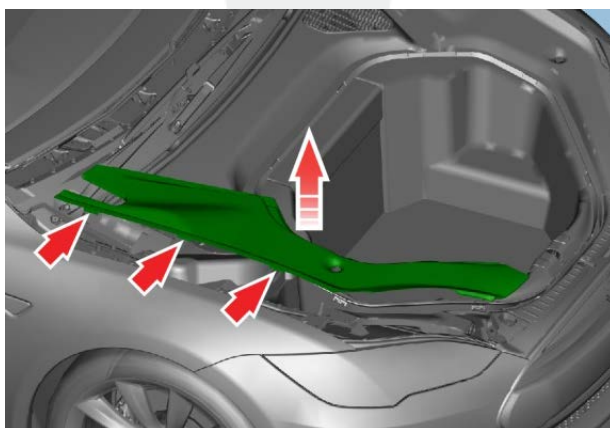

Figure 1
1. Remove the left and right underhood aprons (Figure 1).